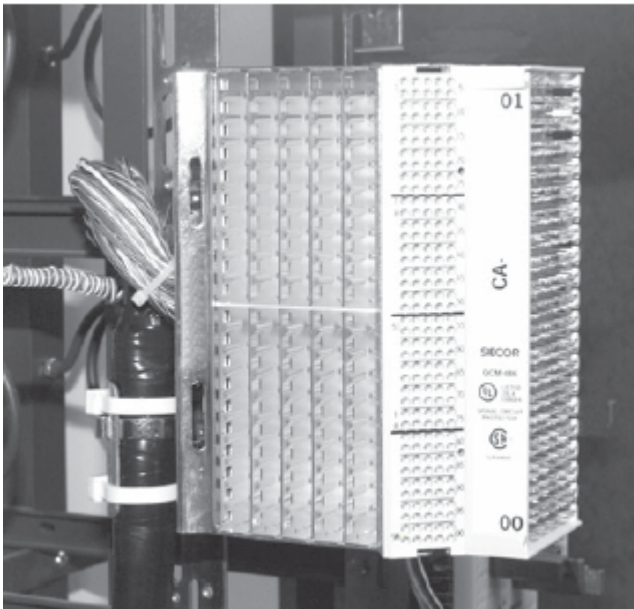

Figure 9 - MPC Mounted to Frame
- NOTE:** *Mount the first MPC on the appropriate frame verticals (Figure 9):*